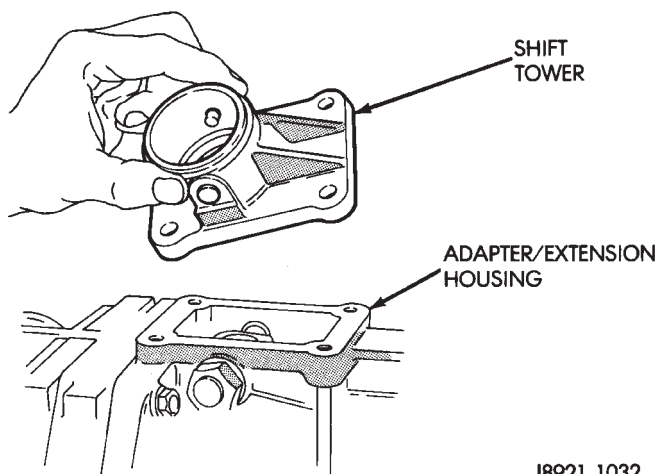
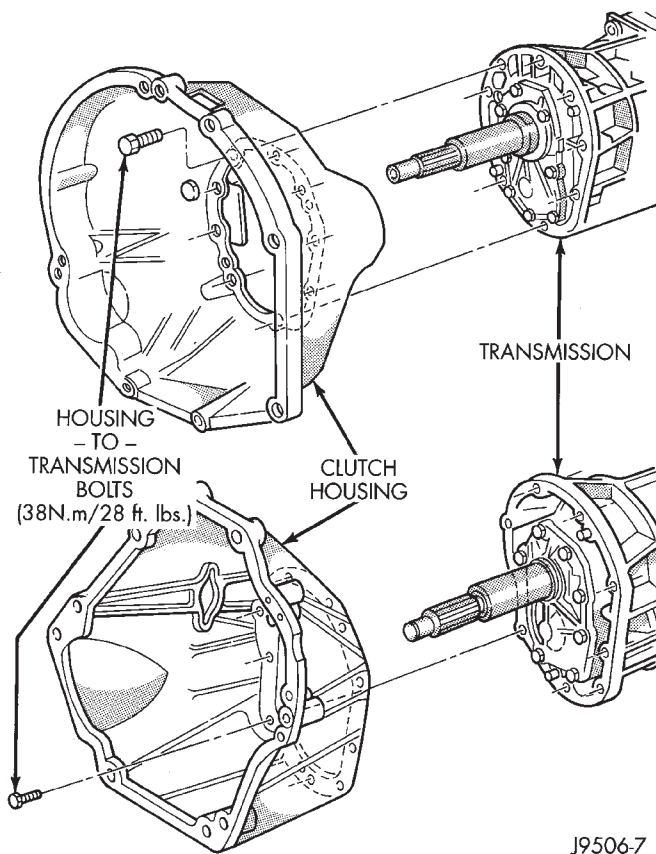

Fig. 16 Remove Shift Tower
Fig. 18 Clutch Housing
- (1) Drain transmission lubricant, if necessary.
- (2) Remove release bearing and lever.
- (3) Remove clutch housing bolts and remove housing (Fig. 18).
- (4) Remove vehicle speed sensor and speedometer adapter, if necessary.
- (5) Remove bolts holding shift tower to transmission case.
- (6) Remove shift tower from transmission case (Fig. 16).